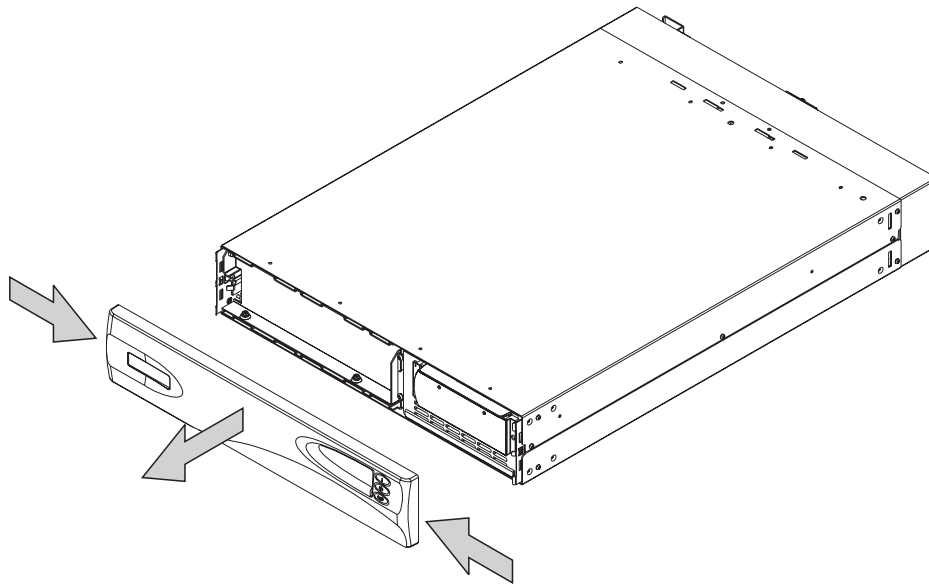

Figure 172. Removing the front panel of the 2145 UPS
3. Remove the front panel by pressing the sides inward and pulling both ends towards you. See Figure 172 on page 384.